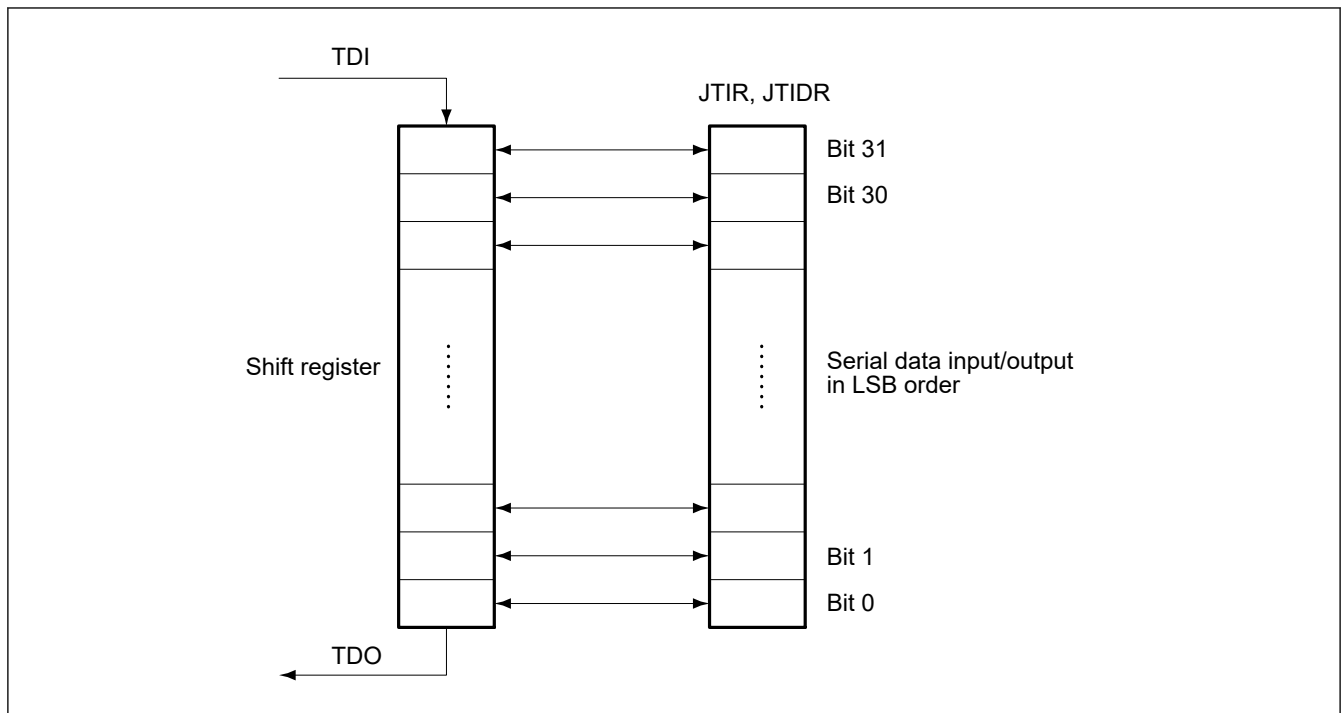

Figure 33.3 Serial data input/output
- Serial data input/output is in LSB order, as shown in Figure 33.3